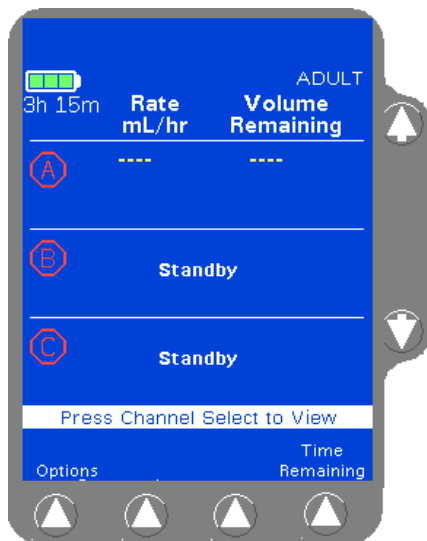

Figure 4-24 Main Display Screen
1. From the Main Display screen (Figure 4-24):